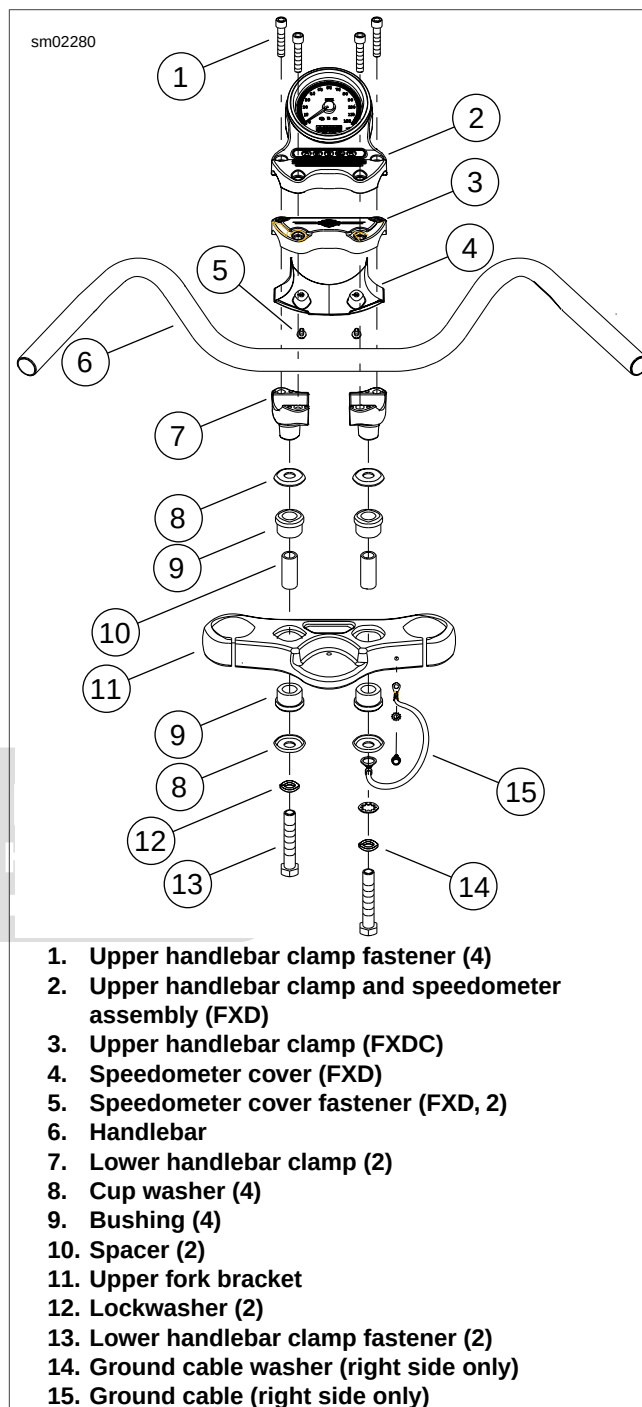

Figure 2-101. Handlebars: FXD, FXDC
1. See Figure 2-101. Remove speedometer cover fasteners (5) and speedometer cover (4).
2. Remove upper handlebar clamp fasteners (1).
- a. For FXD models, remove upper handlebar clamp and speedometer assembly (2).
- b. For FXDC models, remove upper handlebar clamp (3).
3. Remove handlebar (6).
4. If removing lower handlebar clamps (7), remove two lower handlebar clamp fasteners (13), lockwashers (12), ground cable (15) and ground cable washer (14) and lower handlebar clamps from upper fork bracket (11). Replace bushings (9) if necessary.
- See Figure 2-101. If lower handlebar clamps (7) were removed, install lockwashers (12) on lower handlebar clamp fasteners (13). Install ground cable (15) and ground cable washer (14) on right-side fastener.